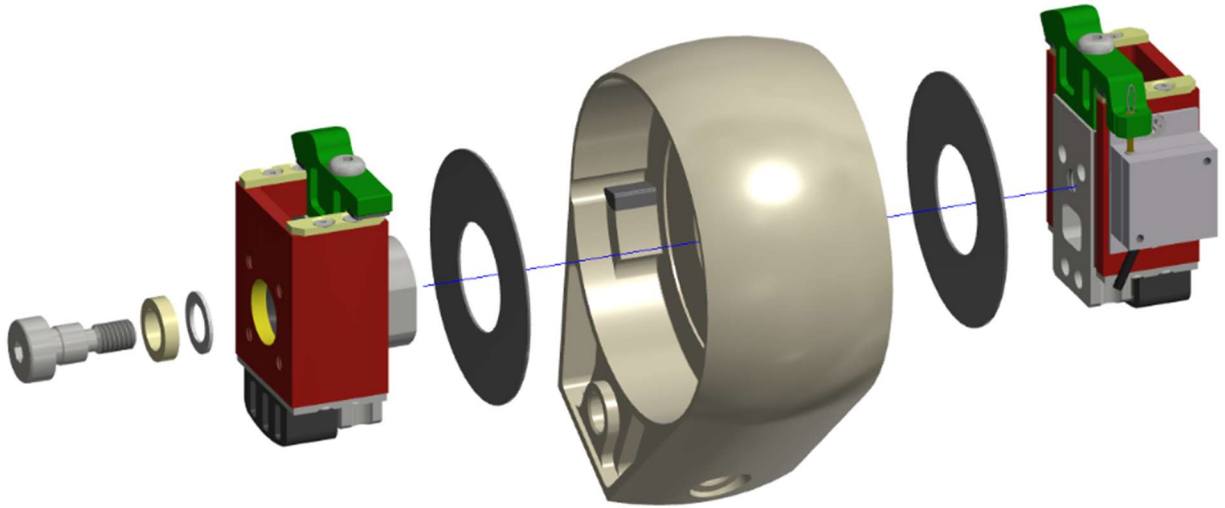

Figure 9-40. Separated knee
- 9.3.9 Install the left and right halves of the Knee Slider Assembly (474-5420) to the Knee Cap (474-5410) using one M8 X 10 LG. SHSS, Knee Compression Washer (474-5316), a 5/16 Flat Washer PTFE, and two Knee Carbon Fiber Washers (474-5401) (Figure 9-40). The bolt is on the same side of the knee for both the left and right legs.